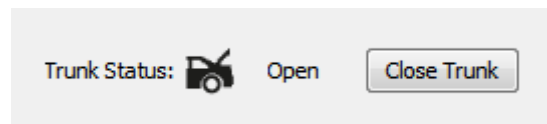

Figure 3.23: KES Demonstrator: Trunk Status and Close
12. Pressing the **Open Trunk** button on the Key Fob opens the vehicle trunk and pressing the **Close Trunk** button on the KES Demonstrator, see Figure 3.23, closes the vehicle trunk.